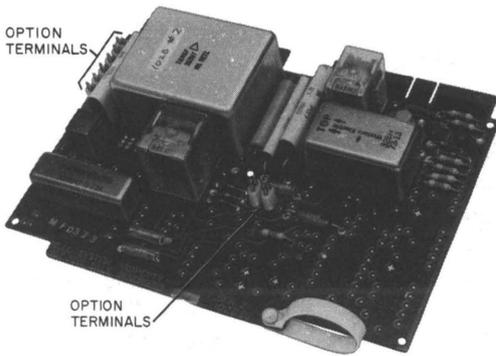

Fig. 1—102B Interconnecting Unit
- Unit, Interconnecting, 102B (one per CO trunk, Fig. 1).
- Option terminals (Fig. 1).